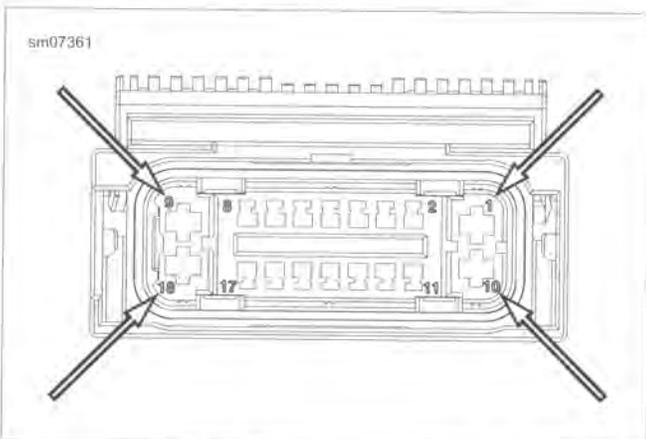

Figure A-77. Tyco MCP Sealed Connector Cavity Numbers
1. See Figure A-77. Locate the wire lead cavity by number.